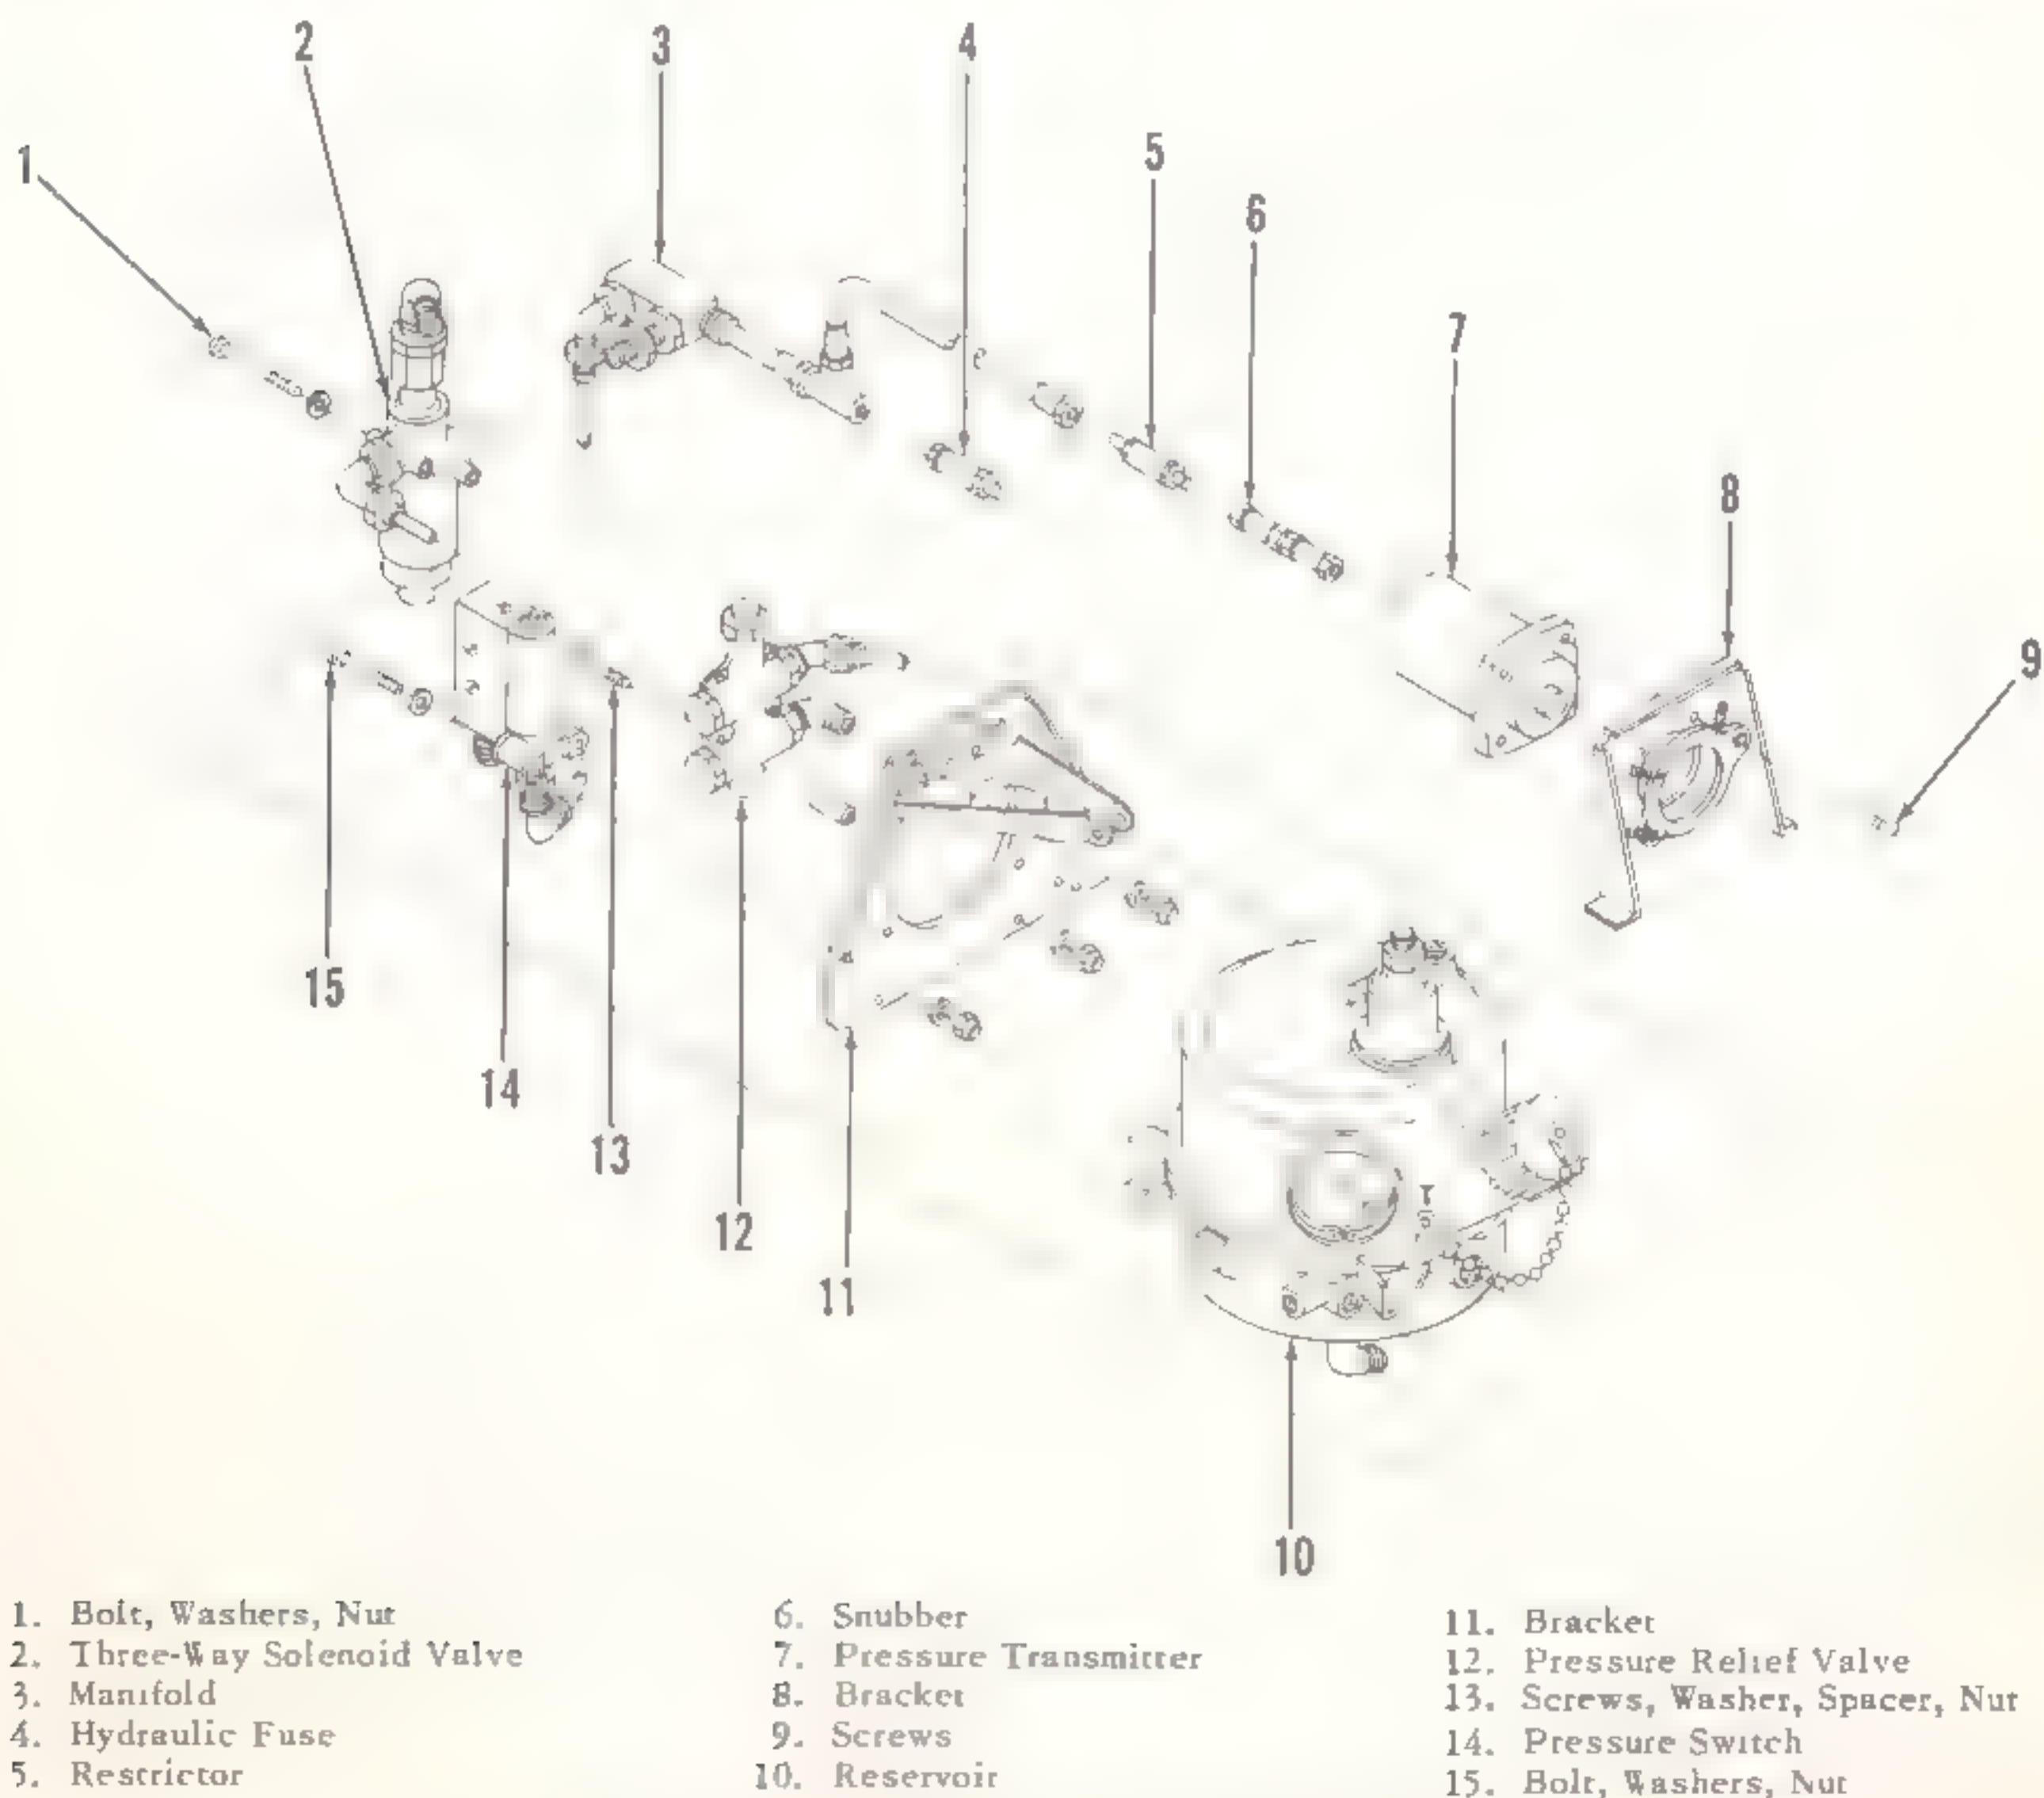

Figure 6-4. Flight controls hydraulic systems component identification
6-12. *Reservoir.* The reservoir (10, figure 6-4) for the primary hydraulic system is mounted on the primary hydraulic panel (figure 6-2 or 6-3) and supplies both the primary and rescue hoist hydraulic systems. A sight level gage, inspection light and bracket, filler tube, and vent line are provided as well as openings for the supply and return lines, the bypass line from the hydraulic pump, the hoist supply and return lines, and the relief tubing to the return port of the relief valve. Access to the reservoir may be gained by hinging down the service platform on the left side of the helicopter. A reservoir inspection window is installed on the copilot's side
6-13. *Pressure Relief Valve.* The primary hydraulic system is protected from excessive pressure by a pressure relief valve (12, figure 6-4) mounted at the hydraulic panel on the left side of the main transmission. The
a. Removal. (1) Disconnect tubing from fittings of pressure relief valve (12, figure 6-4).
(2) Remove screws, washers, spacers, and nuts (13) securing relief valve to bracket (11) and remove pressure relief valve (12).
(3) Remove fittings from pressure relief valve.
b. Cleaning. Clean pressure relief valve with a clean cloth slightly moistened in solvent (item 4, table 1-8).
c. Inspection. (1) Inspect fittings of pressure relief valve for stripped or malformed threads.
(2) Inspect pressure relief valve for cracks and elongated mounting holes.
d. Installation. (1) Install fittings on pressure relief valve (12, figure 6-4).
(2) Position pressure relief valve (12) at bracket (11) and secure with screws, washers, spacers, and nuts (13).
(3) Connect tubing to fittings in pressure relief valve (12).
6-14. Three-Way Solenoid Valve. An electrically operated, three-way solenoid valve (2, figure 6-4) furnishes a means of shutting off the primary hydraulic system. The solenoid circuit is energized by placing the servo switch on the pilot's collective pitch stick in the PRI OFF position. When the pressure in the auxiliary hydraulic system falls below 1000 psi (the pressure necessary for proper auxiliary hydraulic system operation), the solenoid valve is prevented from shutting off the primary hydraulic system by a pressure switch in the auxiliary hydraulic system. The three-way solenoid valve is located on the hydraulic panel on the left side of the main transmission. Access is gained to the solenoid valve by hinging down the service platform on the left side of the helicopter.
a. Removal. (1) Disconnect wiring at three-way solenoid valve (2, figure 6-4) receptacle.
(2) Disconnect inlet, outlet, and return lines at solenoid valve (2).
(3) Remove bolt, washers, and nut (1) and lift solenoid valve off bracket (11).
(4) Remove fittings from solenoid valve.
b. Cleaning. Clean three-way solenoid valve with a clean cloth slightly dampened in solvent (item 4, table 1-8).
c. Inspection. (1) Inspect fittings on three-way solenoid valve for stripped or malformed threads.
(2) Inspect three-way solenoid valve for cracks and elongated mounting holes.
d. Installation. (1) Install fittings on three-way solenoid valve (2, figure 6-4).
(2) Position and secure solenoid valve to bracket (11).
(3) Connect inlet, outlet, and return lines at solenoid valve.
(4) Plug wiring into solenoid valve receptacle.
6-15. Pressure Transmitter. The pressure transmitter (7, figure 6-4) electrically transmits the hydraulic pressure indication in the primary hydraulic system to the primary hydraulic pressure indicator on the instrument panel. The pressure transmitter is shock-mounted on a support attached to the main transmission deck forward of the hydraulic panel. Access to the pressure transmitter is gained by hinging down the service platform on the left side of the helicopter.
a. Removal. (1) Disconnect wiring from pressure transmitter (7, figure 6-4).
(2) Disconnect pressure hose from elbow at pressure transmitter (7).
(3) Remove screws (9) and lift pressure transmitter (7) out of bracket (8).
(4) Remove elbow from pressure transmitter (7).
b. Cleaning. Clean pressure transmitter with a clean cloth slightly moistened in solvent (item 4, table 1-8).
c. Inspection. (1) Inspect fittings on pressure transmitter for stripped or elongated mounting holes.